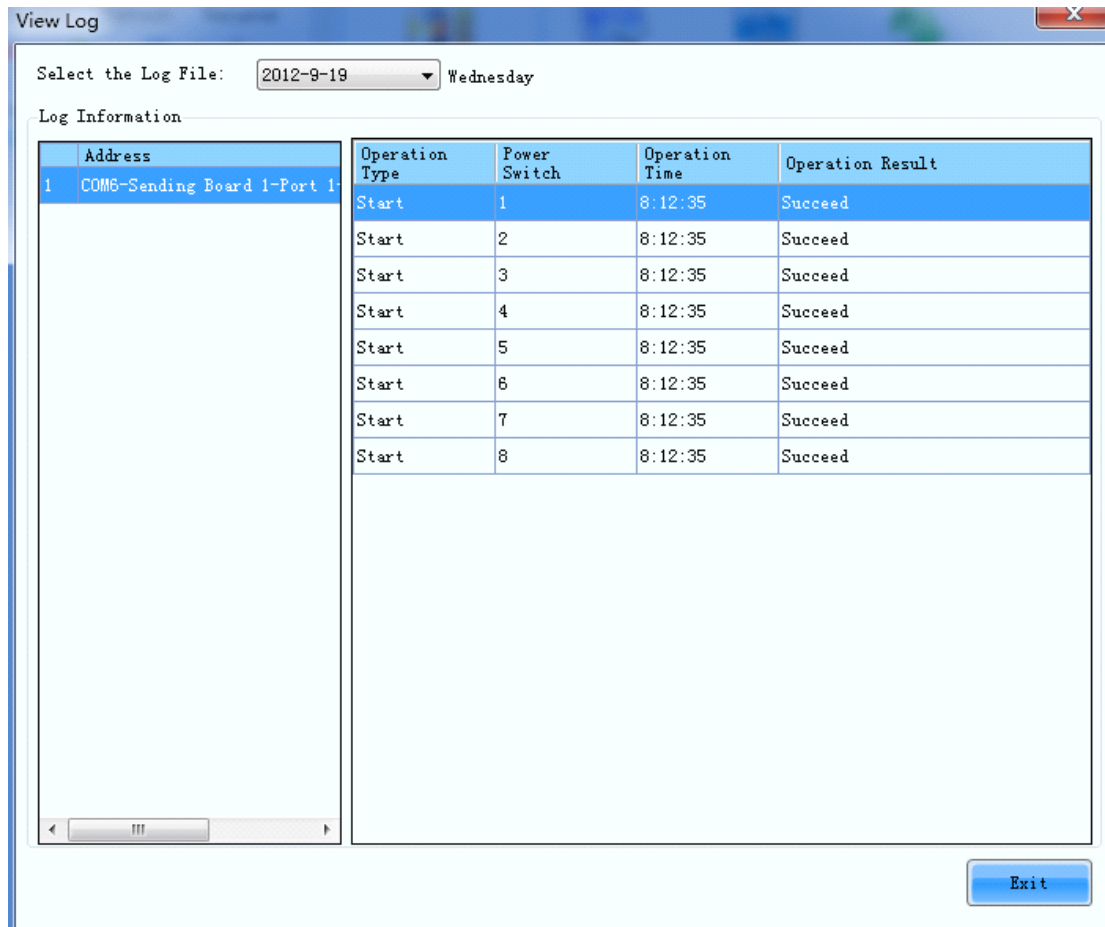

Figure-12
**Edit:** Click this button to open the page for editing the power supply control schedule, as shown in Figure-12.